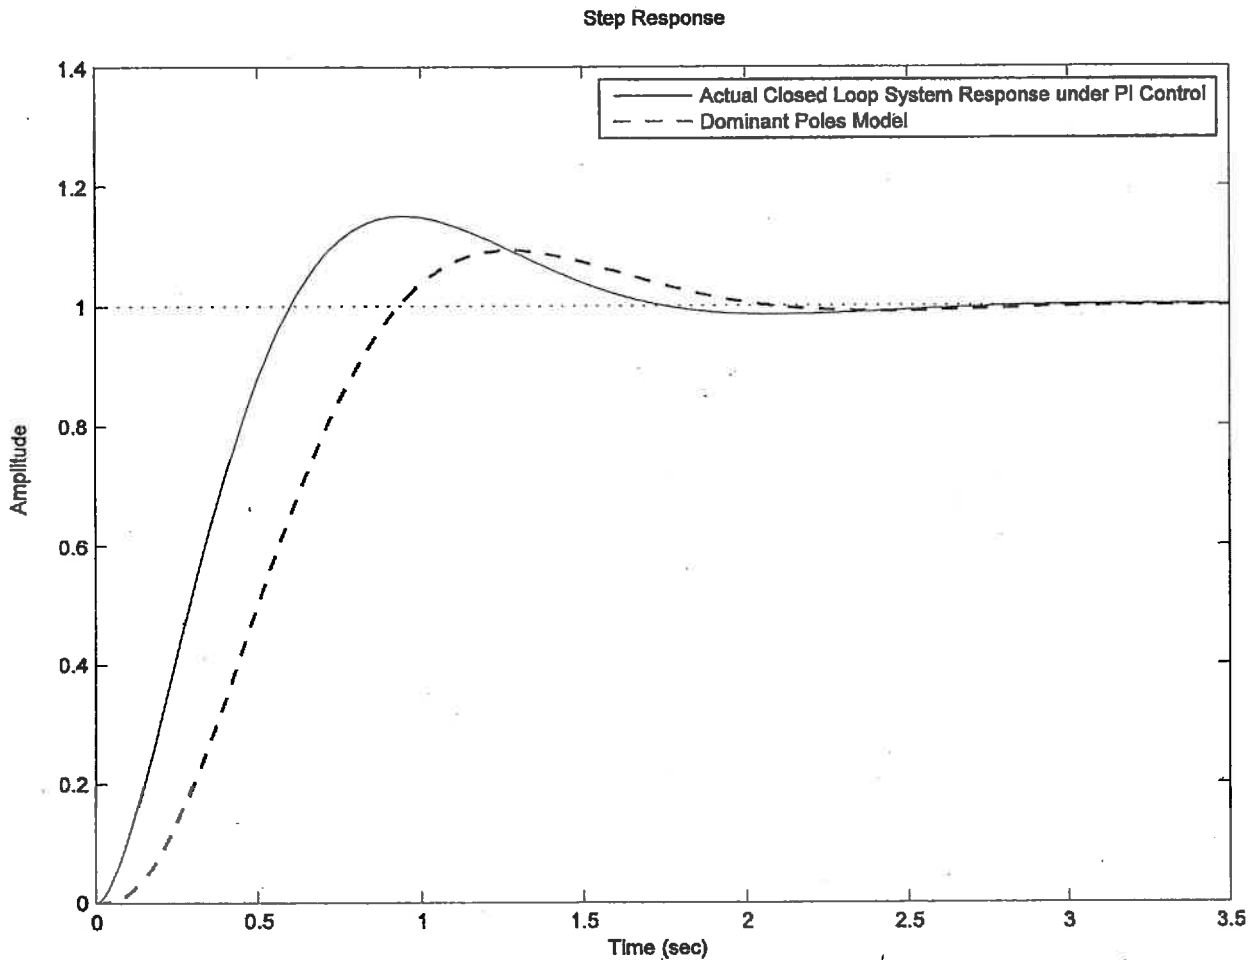

Figure Q1.2
- 4) **(5 marks)** Check if the assumption made in Item 1 is true, i.e. that the effect of the third closed loop pole is negligible. When can such an assumption be made? Is this condition met here? If it is not met, what is the expected effect of the real pole on the closed loop system response? Figure Q1.2 shows the response of PI Controller, compared with the response of a dominant poles model. Why are the two responses different? What factors are at play here? Comment briefly in the lined space provided.